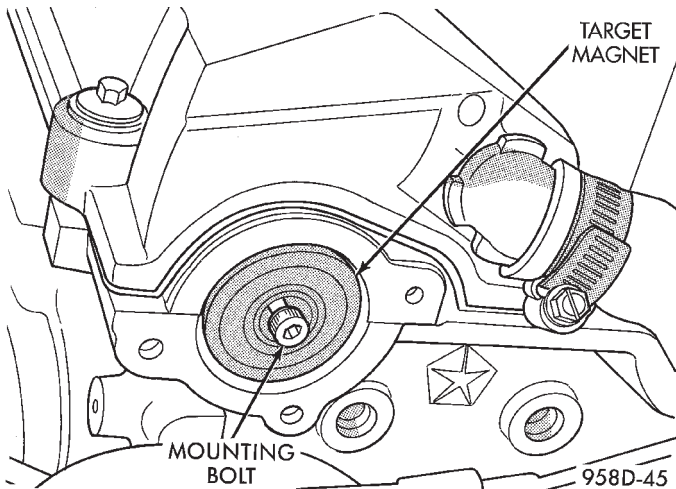

Fig. 43 Target Magnet Removal/Installation
- (1) Remove filtered air tube from the throttle body and air cleaner housing.
- (2) Disconnect electrical connector from camshaft position sensor.
- (3) Remove camshaft position sensor mounting screws. Remove sensor.
- (4) Loosen screw attaching target magnet to rear of camshaft (Fig. 43).